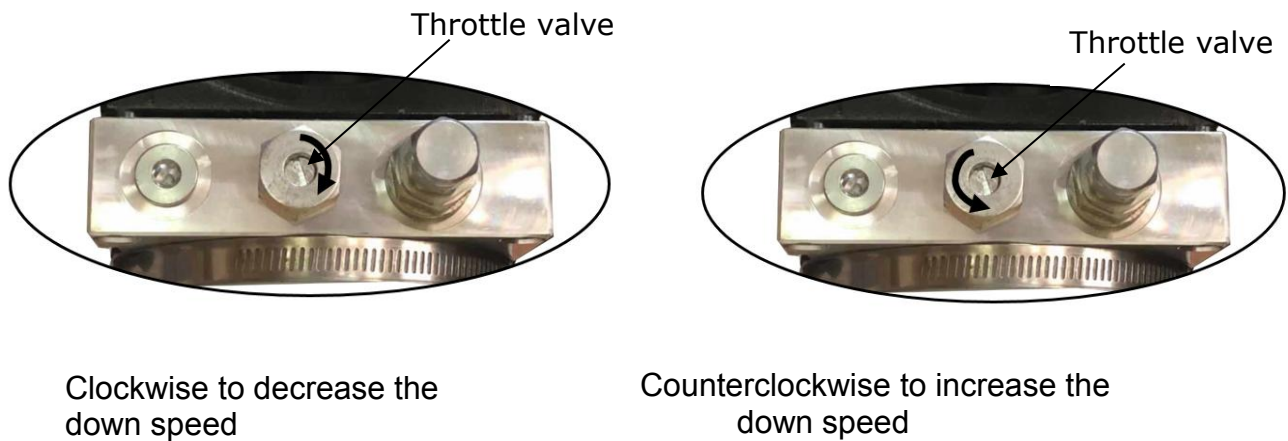

Fig.33
1. Adjust the lower speed (See Fig.33)